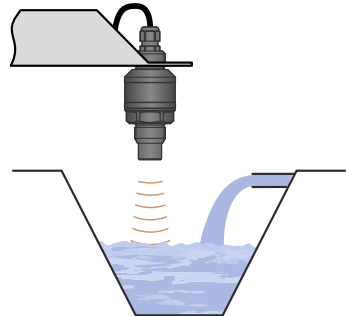

Fig. 10: Wavy level
- The ultrasonic signal can be scattered or attenuated if the level is moderately stirred or rippled (due to a mixer, inflow of liquid, etc.). This may result in reduction of the measurement range or unreliable operation of the device (Fig. 10).
- False level reflections of the ultrasonic signal and unreliable operation of the device might result from the mixer's rotating blades that ripple the level (Fig. 10). For a rippled or swirling level, you can use the directional horn to eliminate scattering of the ultrasonic signal.